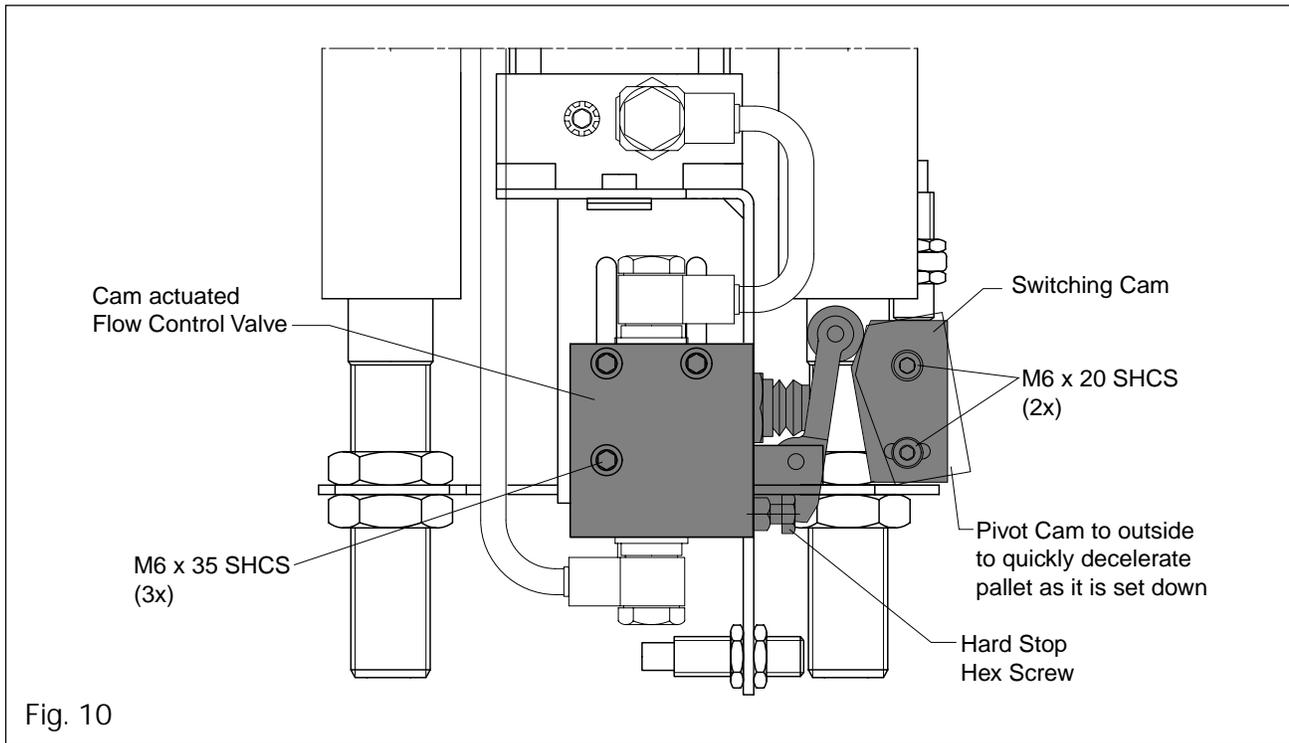

Fig. 10
Attach the switching cam, short profile up, to the mounting bracket using (2) M6 x 20 SHCS, lock washers and hex nuts provided. Next, attach the flow control valve to the two vertical slots in the proximity sensor mounting bracket, as shown in Fig. 10, using (3) M6 x 35 SHCS, lock washers, plain washers and hex nuts.